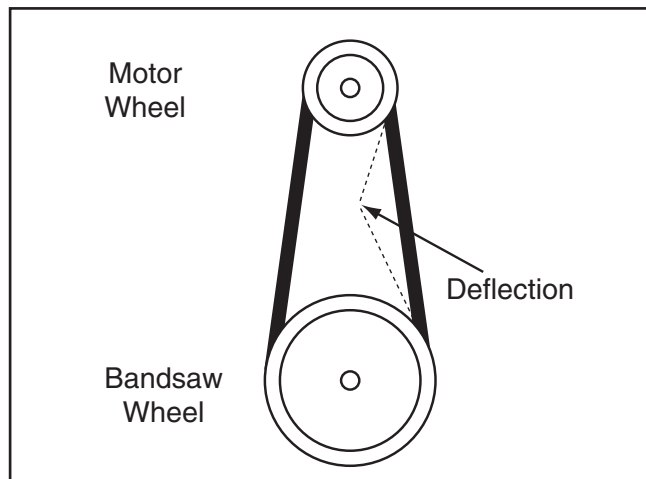

Figure 74. V-belt deflection.
4. Push the center of the V-belts. Note the amount of deflection (see **Figure 74**). If deflection is more than $\frac{3}{4}$ ", tension the V-belt.